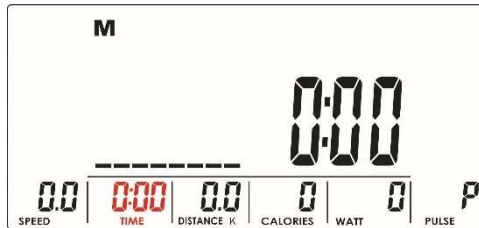
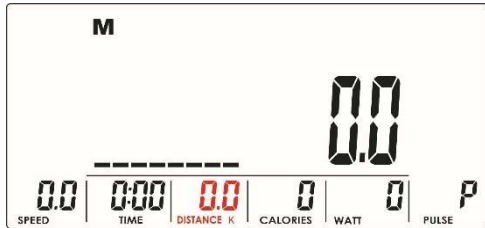
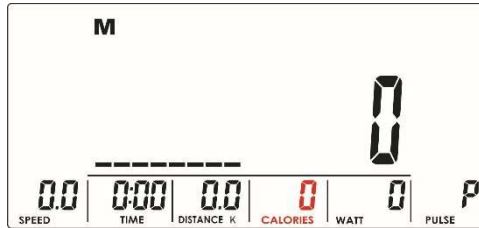
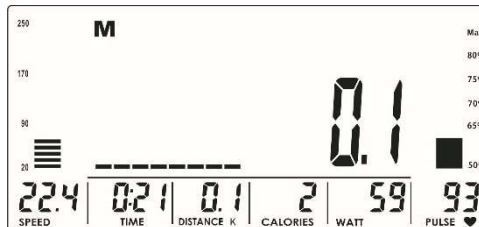

Fig. 05
Fig. 06
Fig. 07
Fig. 09
- Set the TIME (Fig. 05), DISTANCE (Fig. 06), CALORIES (Fig. 07), and PULSE (FIG. 09) by pressing the UP or DOWN button. Confirm your selection with MODE.